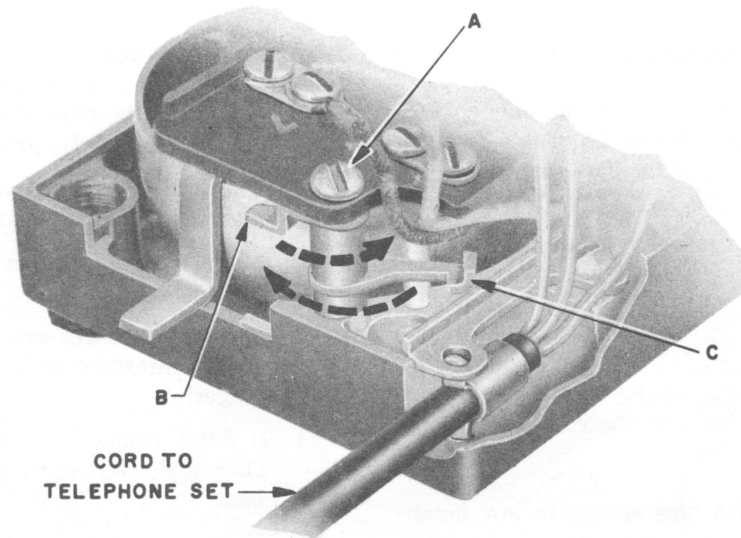

Fig. 3 - End View of E1A Ringer
4.04 When the inside wire enters the ringer from the bottom or back, the mounting cord from the telephone set may be brought in either end of the ringer. When the inside wire enters from one end, the set cord (if used) can enter from the opposite end. Secure the telephone set cord to the ringer as shown in Fig. 3.
4.05 The volume control lever on the ringer may be moved from loud to low. By loosening screw A (Fig. 3) and swinging stop B (Fig. 3) to the extreme right, the lever may also be moved to the off position. A detent differentiates between the low-volume and off positions.
4.06 To silence the ringer permanently, loosen screw A (Fig. 3) and move stop B (Fig. 3) to the right. Move the volume control lever to the off position. Move latch C (Fig. 3) to the left so that it falls in place over the volume control lever, locking it in the off position.